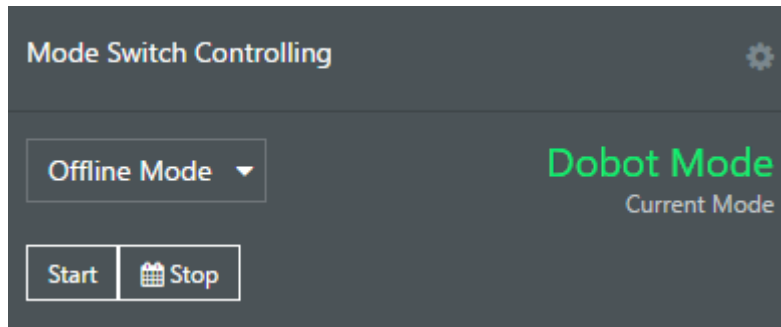

Figure 6.37 Status of Dobot M1
Step 10 Select **Offline Mode** from the drop-down list on the **Mode Switch Controlling** pane of the **Home** page, and click **Start** to make Dobot M1 in the **Offline Mode** status, as shown in Figure 6.37. Dobot M1 is disconnected from M1Studio, and Dobot M1 can be running according to the files that are in offline mode.